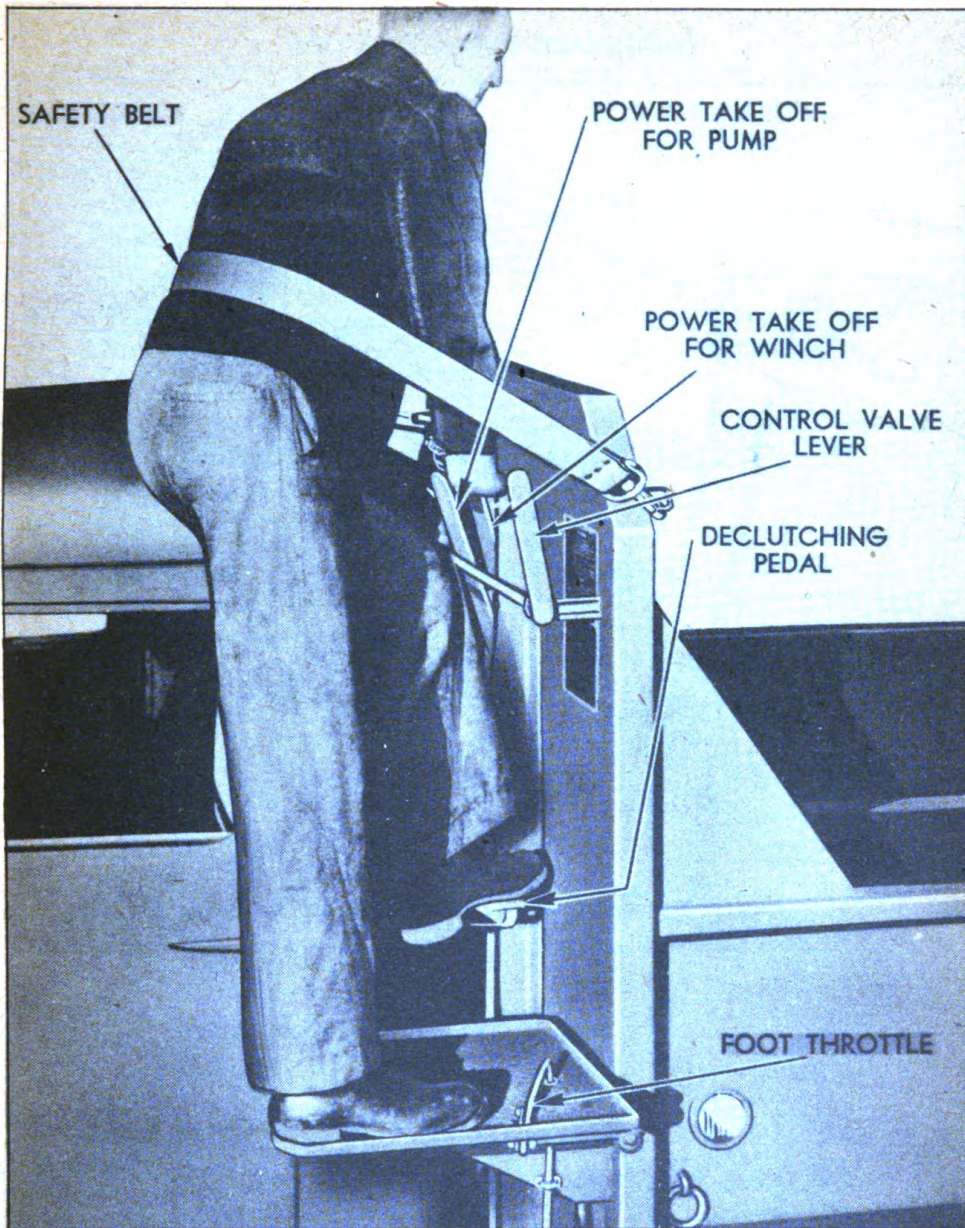

Figure 6. Operating the Crane Controls
(4) The crane is operated from a platform at the front of the body, Figure 6. With the truck engine running, the operator can control the entire operation of the crane from this platform. Arrangement of the controls is shown in Figure 13, Page 14.